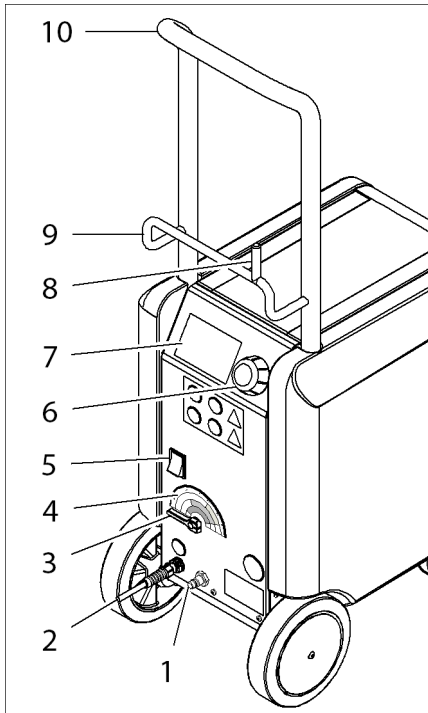

Fig. 2: Dry ice blasting system – back
- Attach the blasting gun to the mandrel (item 8 in Fig. 2) on the hose winding bracket of the dry ice blasting system.